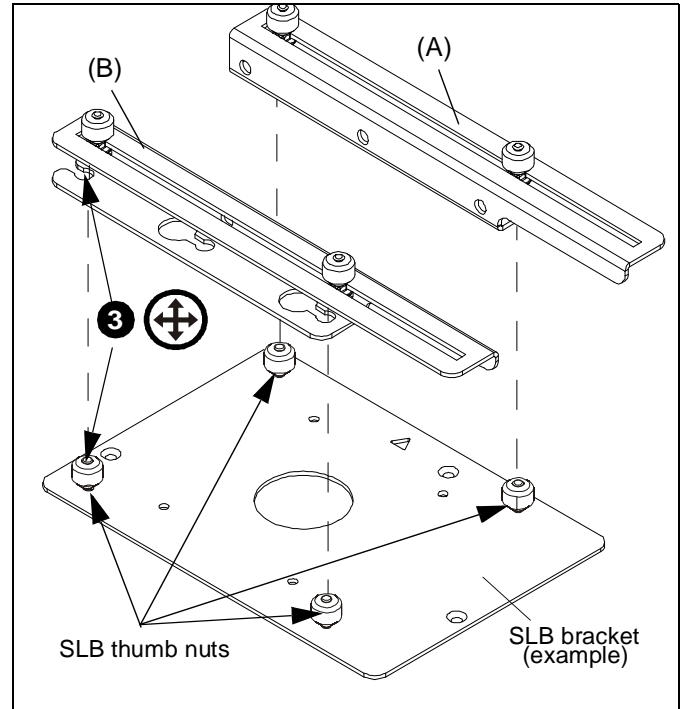

Figure 2
2. Ensure thumb nuts of the SLB interface bracket (not included) are installed following instructions included with SLB kit. (See Figure 2)
3. Line up keyhole slots of both LSB brackets (A) and (B) with SLB interface bracket thumb nuts (not included). (See Figure 2)